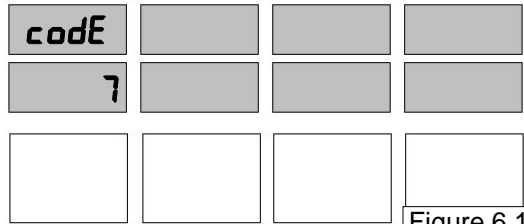
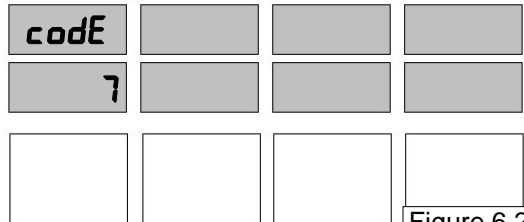

Figure 6.1
Figure 6.2
1. Press the 6 button and then the **MODE** button on the keypad. The main display shows the first setting which is how many Sides in Code 7. See Figure 6.1. Press **ENTER** and the display shows the number of grades that were set in Code 7. See Figure 6.2.